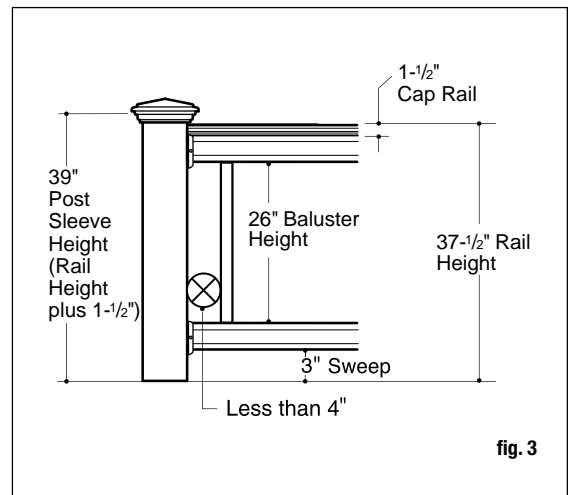

fig. 3
Step 6 Measure the distance between installed post sleeves to determine the length of the top and bottom rails (fig. 1). The distance between the post and first baluster should be less than 4" and equal on both ends (fig. 3, following page). Remove an additional 1/4" on both ends (1/2" overall) for the bracket to fit between the rail and post. Trim the top and bottom rails to length.
Step 8 Position the bottom rail between posts and center. *Note: Check building code requirements for maximum spacing between deck surface and bottom of rail (sweep).* Spacing of 3" is recommended, but can be more or less if codes allow (fig. 3). Mark the location of the bracket on both posts. Remove rail. Mark the screw locations and pre-drill through the post sleeve only, using a 1/4" drill bit. Attach each bracket to the post with two 2" screws.
Step 10 Figure 3 illustrates how a 36"-high railing might be sized. *Note: Use a fixture to ensure a consistent length (+/- 1/16").*
Step 3 Complete stair tread installation prior to installing post sleeves. Trim 4x4 post sleeves to length. If using post caps, post sleeves should be a minimum of 1-1/2" longer than the overall railing height (fig. 3). Allow an additional 1-1/2" in your calculation if installing the optional cap rail. Example: For a 36" high railing, trim post sleeve to a minimum of 37-1/2" (39" with cap rail). Post sleeve can be left longer if desired.